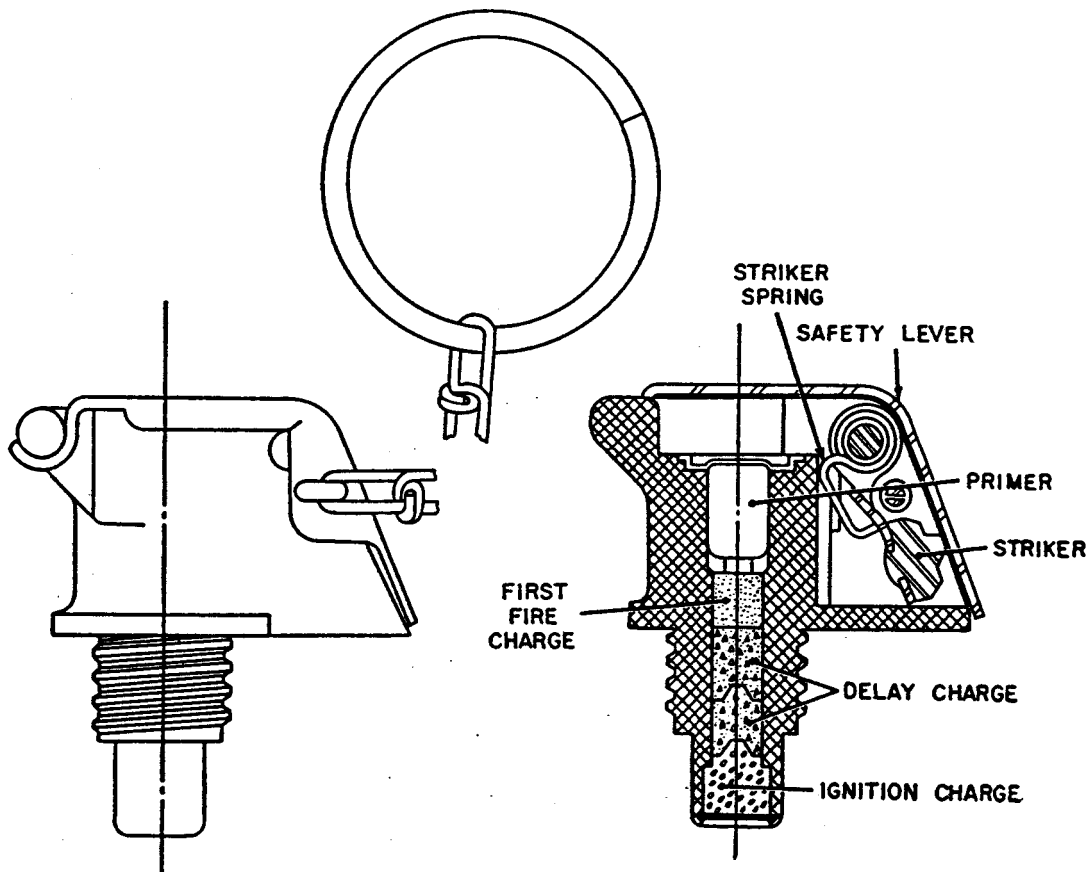
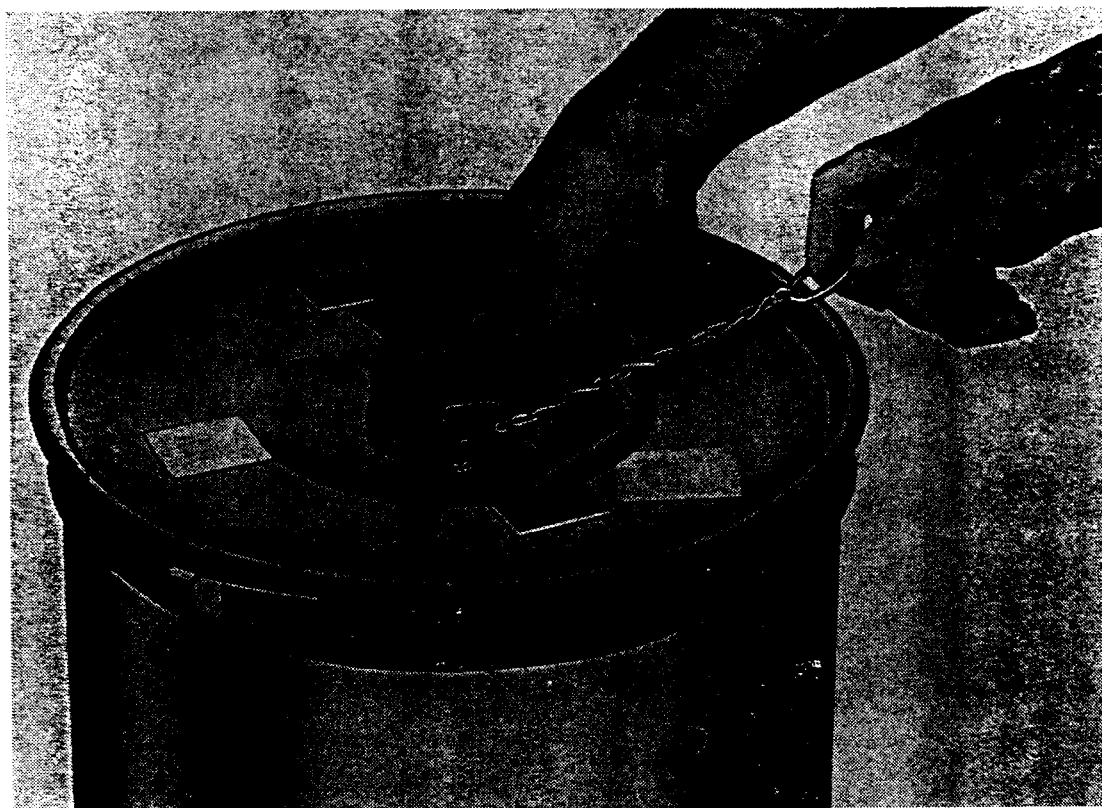

Figure 9. M207A1 floating smoke pot fuze.
Figure 10. Firing the M4A2 floating smoke pot.
c. The M207A1 floating smoke pot fuze (fig. 9) is screwed into the fuze adapter in the inner cover. An igniter tube extends downward from the lower end of the fuze adapter to the starter mixture.
Remove the quick-release clamp and outer cover, exposing the fuze. Hold the safety lever (fuze lever) firmly against the fuze body and withdraw the safety pin (fig. 10). Lift the pot by its handle and drop it into the water, releasing the safety lever. When the safety lever is released, the striker (fig. 9), driven by the striker spring, hits the primer. The primer ignites the first-fire charge, which in turn ignites the delay charge. After 1.2 to 2 seconds, the delay charge ignites the ignition charge, completing the fuze action. Flame from the ignition charge travels through the igniter tube to the starter mixture, which in turn ignites the HC filling. Pressure builds up